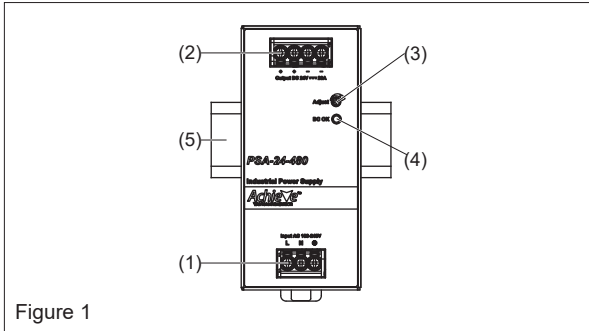
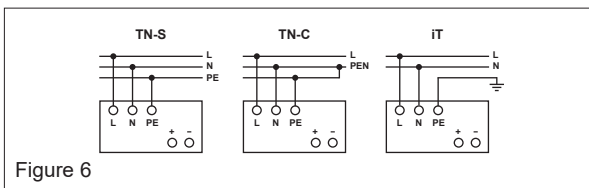

Figure 1
Figure 6
2. Device description (Fig. 1)
5.1. Input connection (Fig. 1, Fig. 6)
Use L, N and PE connections of input terminal connector (see Fig. 1 (1)) to establish the 100-240 VAC connection. The device has an internal fuse. The unit is tested and approved with branch circuit protective device up to 20 A.
5.2. Output Connection (Fig. 1 (2))
Use the "+" and "-" screw connections to establish the 24 VDC and 48 VDC connection. The green LED DC OK displays correct function of the output (Fig. 1 (4)). The device has a short circuit and overload protection.